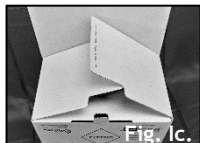

Fig. 1c.
5. Fold down the side flaps marked "2" and "3". (See Fig. 1c.)